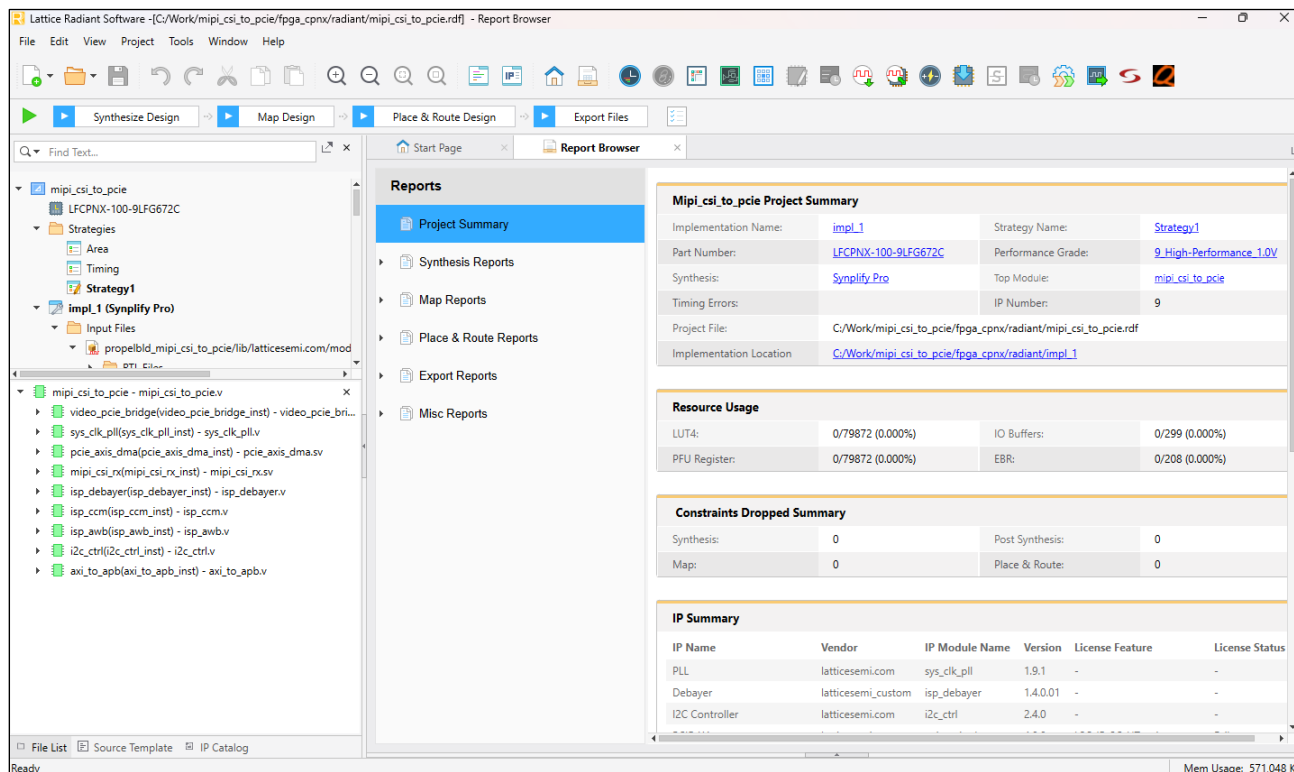

Figure 5.10. Lattice Radiant Window
- The Lattice Radiant software window of this project opens, as shown in Figure 5.10.